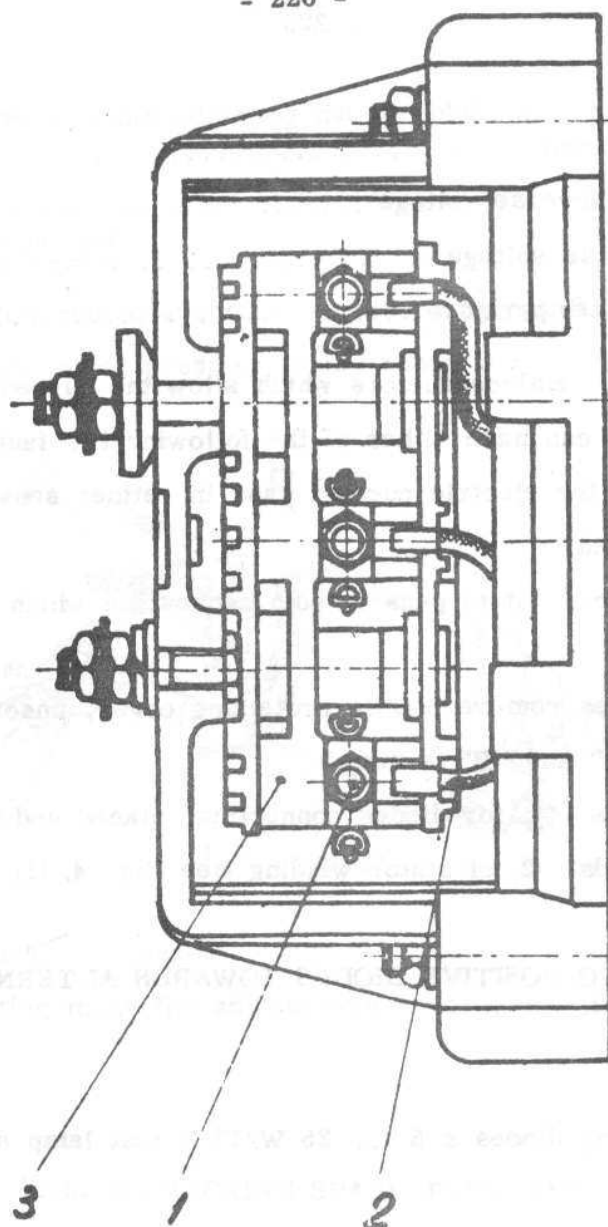

Fig. 4.41. DIODE-HOLDER AND TERMINAL ASSEMBLY.
- Unscrew the 3 nuts (1). for diodes connecting, placed under the cover and make free the leads (2) of stator winding (see Fig. 4.41).
- Unscrew the 3 nuts (1) - see fig. 4.41 - of the diode-holder (3) and remove the 3 terminals (2) of stator winding, also with a 7 mm wrench.